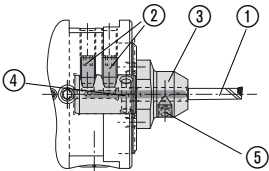

Fig. 2
**General notes for fitting adapter, tool holders, serrated tool bodies** (Figs. 2, 3, 4)
## Mini boring tools (Fig. 2)